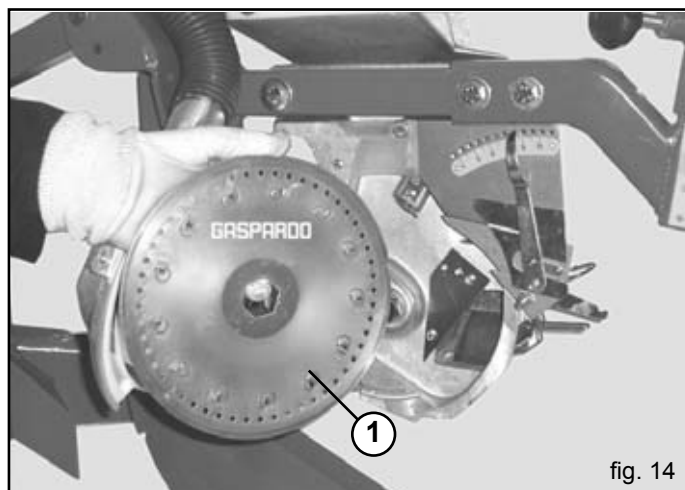

fig. 14
- The disk must be assembled with the pegs (1, Fig.14) pointing towards the inside of the distributor.